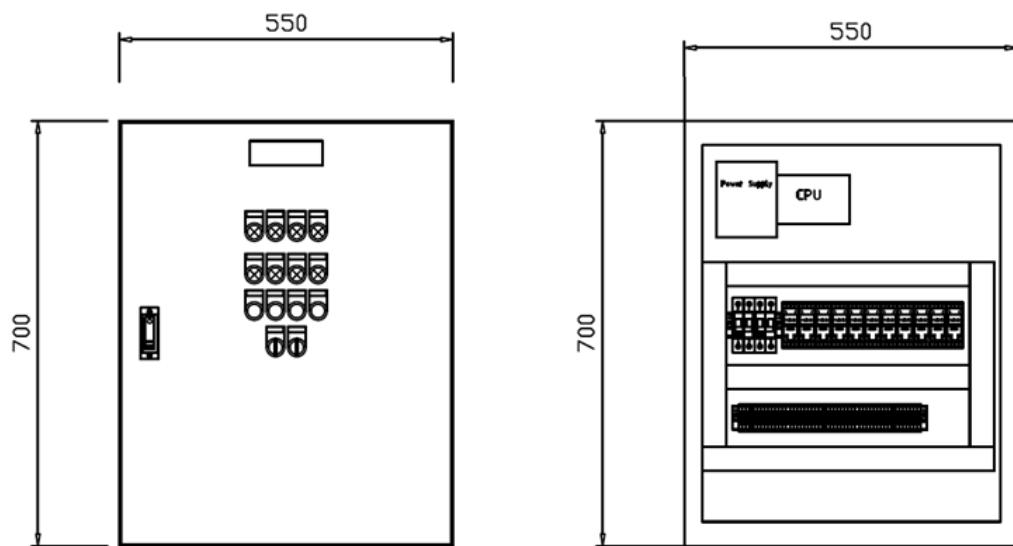

Figure 3.1 Front views and w/o front cover of PLC digital practices
2. Study the installation equipment, drawing (panel, wire duct and din rail) and install all the equipments on the panel by mounting on the plate (follow by panel layout) as show in figure 3.1.